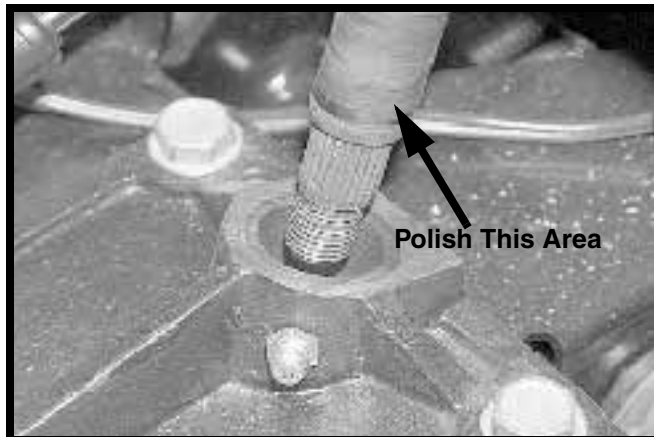

FIGURE 3
10. With a piece of emory cloth polish the lower end of the steering shaft directly above the splined portion. See FIGURE 3. Polish as even as possible while turning the shaft to remove any high spots or burs.